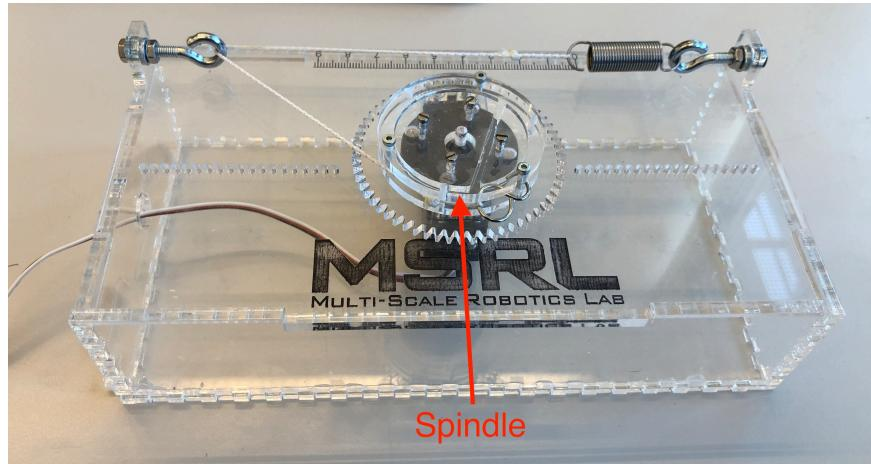

Figure 4.7: Example for the Torque Analysis starting setup.
2. Build the same experiment as the one displayed on the sketch and on Figure 4.7 using the supplied materials.